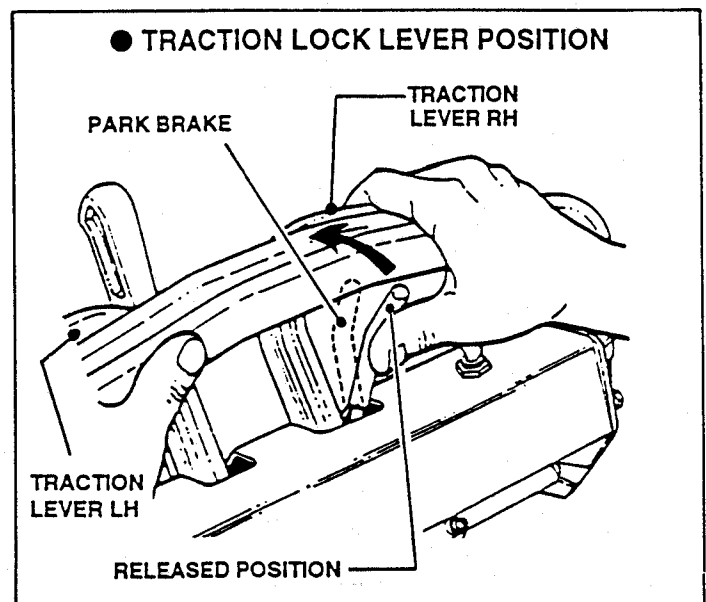

FIGURE 16
When Traction Lock Lever is placed in **PARK** position, both Traction Wheel Drives are **disengaged** and wheel brakes are set, allowing the operator to **PARK THE MOWER ON LEVEL GROUND**. See Figures 16 & 17. When hauling mower, you have two options for parking mower.
3. To **release** Traction Lock, squeeze both Traction Levers firmly against the handlebar allowing Traction Lock to release. Simultaneously move both Traction Levers **slowly** forward, allowing machine to start forward movement. See Figure 16.